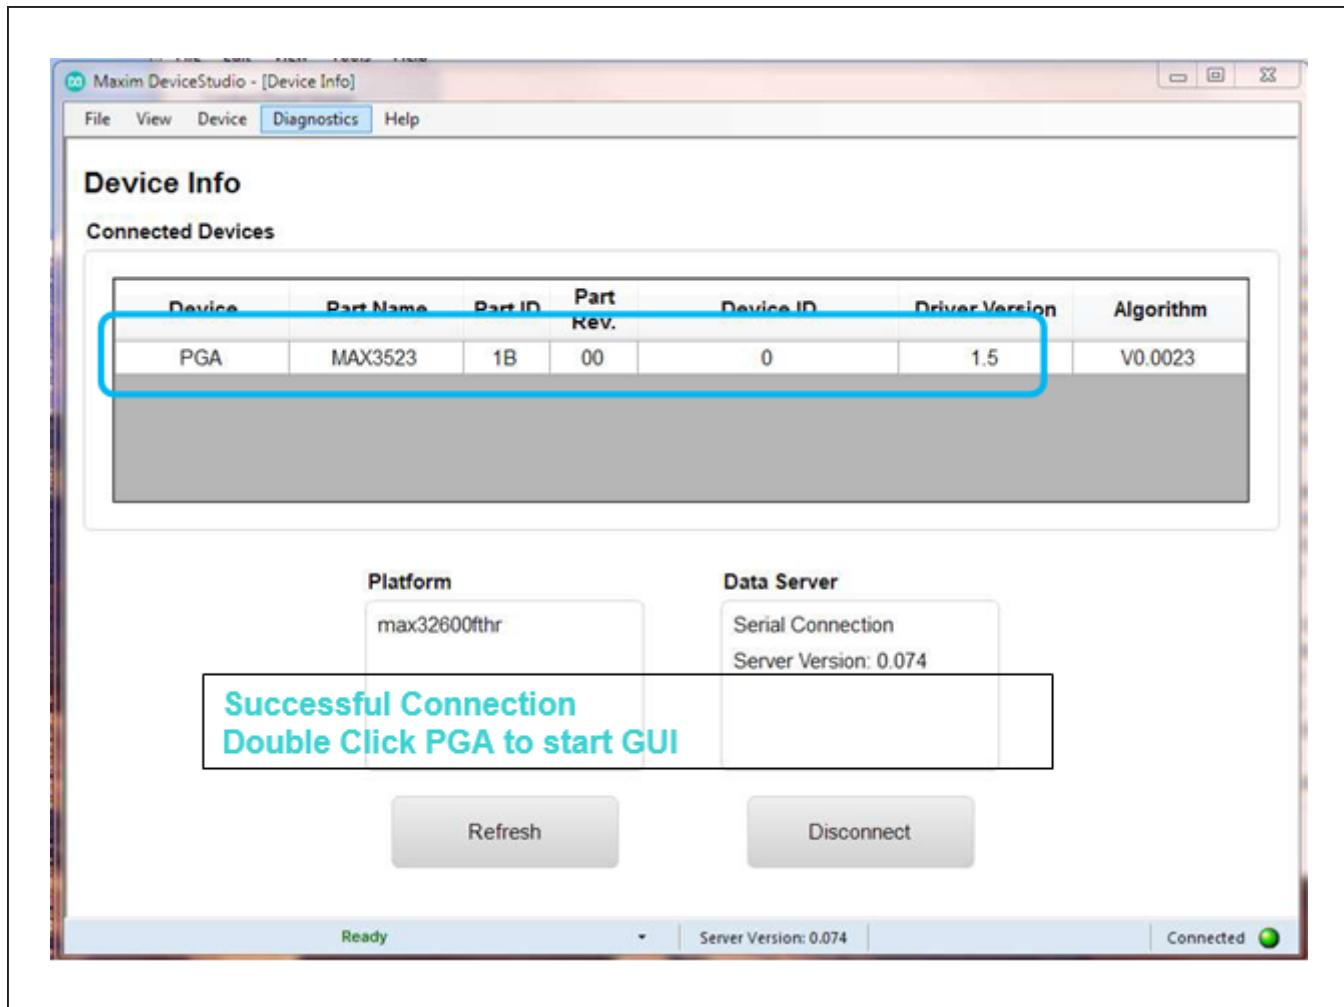

Figure 2. MX3523 EV Kit GUI, Successful Connection
4) Check GUI/EV Kit communication status: Launch DeviceStudio5.exe, and DeviceStudio will automatically search for the connected MAXIM EV kit. After few seconds, MAX3523 should appear in device list (Figure 2).
- 7) Double-click PGA section at DeviceStudio to launch MAX3523 GUI. (Figure 2)